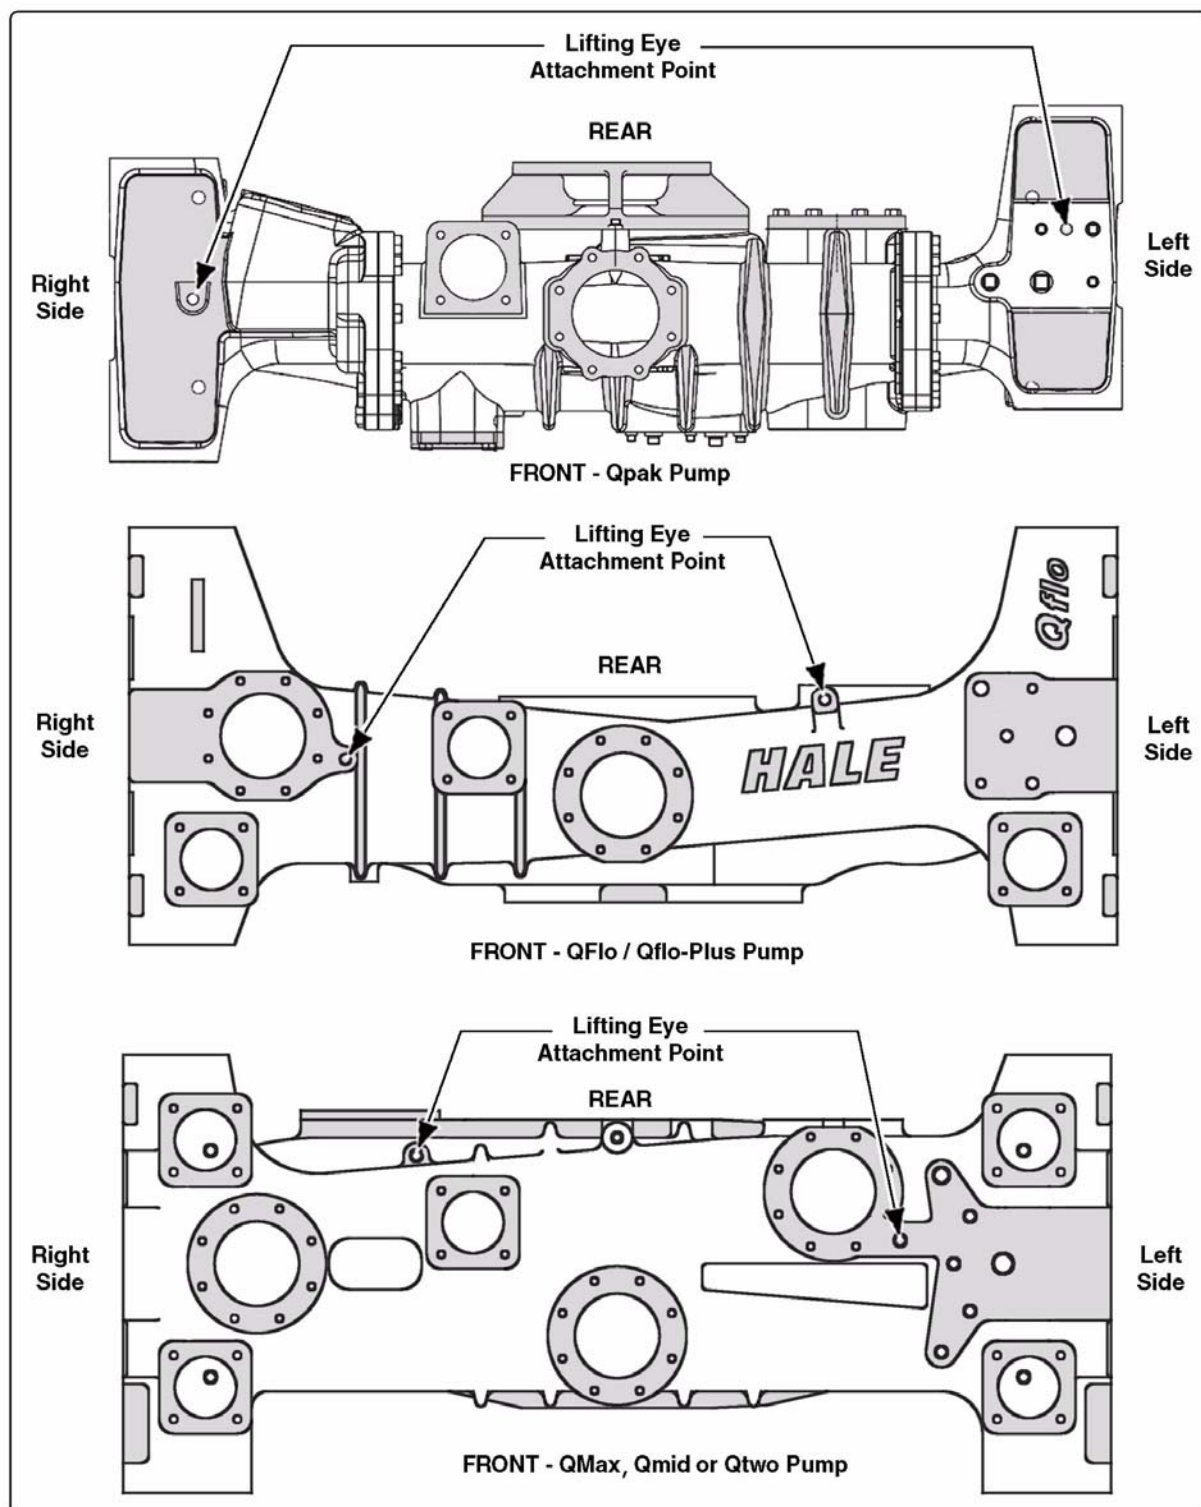

Figure 7-1: Lifting Eyebolt Attachment Layout
**TO FULLY SUPPORT THE MIDSHIP MUSCLE PUMP ASSEMBLY, USE ALL MOUNTING BOLT HOLES PROVIDED IN THE MIDSHIP PUMP HOUSING. ALSO SEE FIGURE 7-1: “LIFTING EYEBOLT ATTACHMENT LAYOUT” ON PAGE 174.**
Two 1/2-13 tapped holes mounting holes are provided for 1/2-13 UNC eyebolts. (See Figure 7-1: “Lifting Eyebolt Attachment Layout,” on page 174.)